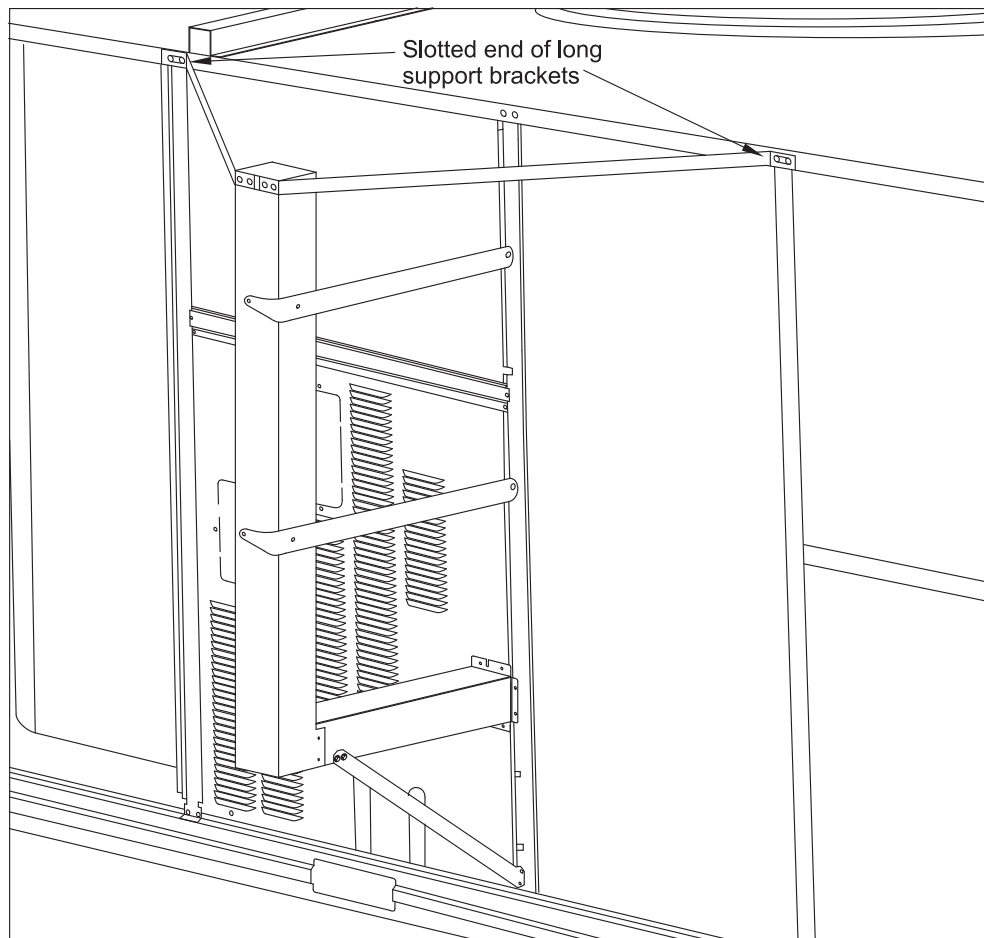

Fig. 4 — Flue Discharge Deflector Kit Completely Installed
14. Attach the other end of the 2 long support brackets to the flue stack using 4 sheet metal screws provided. (See Fig. 4.)